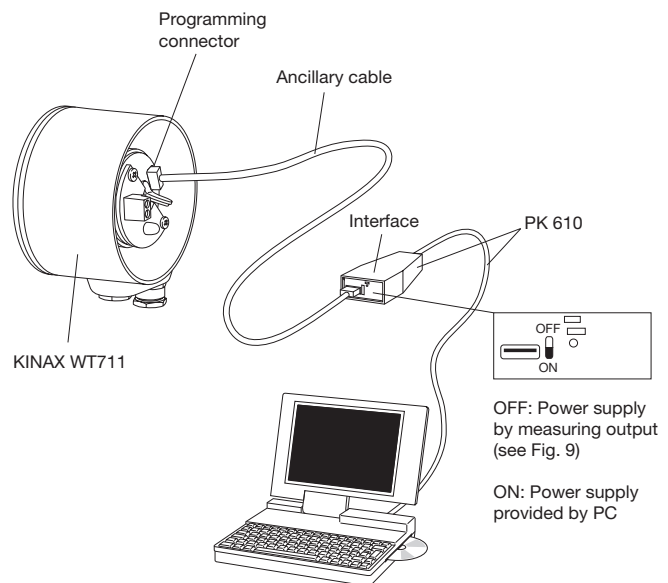

Fig. 6
1. Remove the plastic cover from the housing. Remove the rubber cover (3) to gain access the programming connector (4) (see section “7.1 Connecting transmitter” and Fig. 8). Connect the KINAX WT 711 to the programming device according to Fig. 6. Start the 2W2 configuration software. If necessary, configure the device with the required measuring range data.
1. Put the transmitter into operation and connect the programming device according to Fig. 6 (AUX switch on the PK 610 on the OFF position).